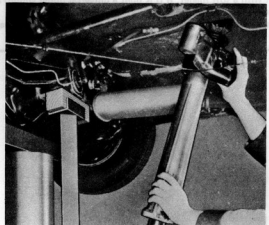

Fig. 7.4. Lifting the extension housing away from the car (Sec. 2)
- 21 The whole rear shaft assembly may now be removed from the underside of the car (Fig. 7.4).